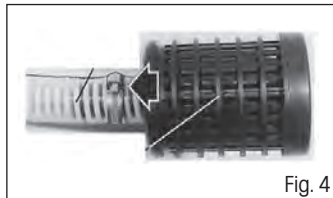

Fig. 4
- ✿ The hose must be equipped with a suction strainer with a non-return valve. The strainer must be properly fixed with a clamp (fig.4). This will prevent the hose from aeration and foreign particles from penetrating into the pump impeller.